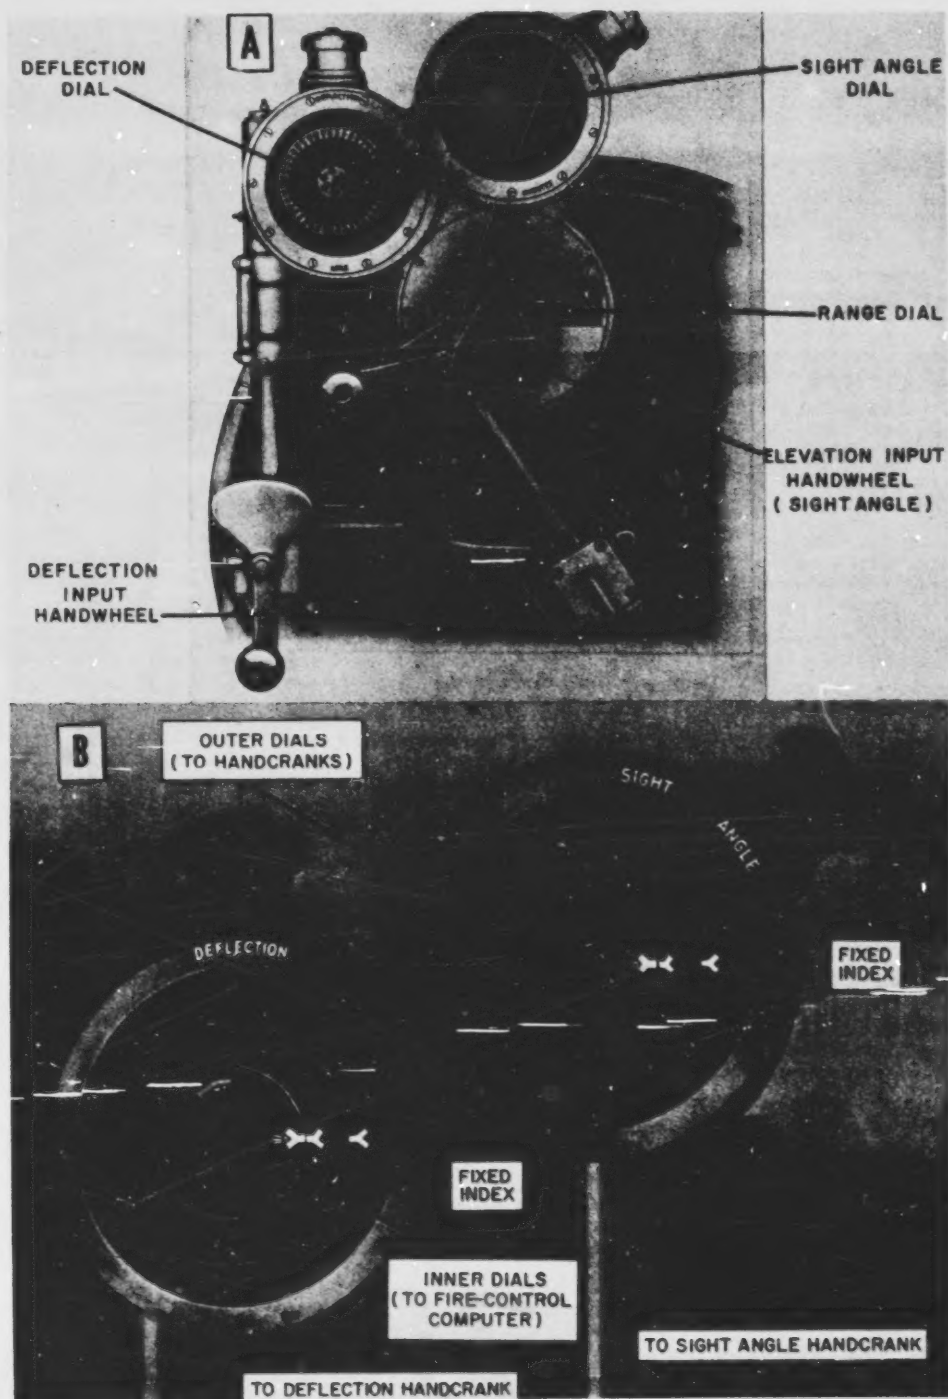

Figure 12-27.—A. Sight-setting component arrangement. B. Sight angle and deflection dials.
2. Most mounts have synchro-driven dials (as in fig. 12-27, part B) which indicate computed sight angle and deflection. The sightsetter cranks in sight angle and deflection until the outer dials (positioned by his handcranks) match the inner (synchro-driven) dials. This action simultaneously repositions prisms in the sight optical systems, causing the telescope lines of sight to shift off target.
Figure 12-27, Part A, shows the handcrank arrangement; Part B shows in more detail how the dials look when matched. The fixed index shows the angular values actually cranked in. It is used when there is no synchro transmission; under
3. The SIGHTSETTER is the man who is responsible for moving the pointer's and trainer's sights with respect to the gun. He has a handcrank for sight angle, and another for deflection angle (fig. 12-27A). Zeroing is done by handcrank. Sight angle is zeroed by turning the elevation input handwheel until the sight angle dial reads 2000 minutes (fig. 12-27). Deflection is zeroed by turning the deflection input handwheel until the deflection dial reads 500 mils.
As stated before, deflection spots are made in mils; they are applied by means of the deflection input handwheel. Range spots are made in yards by means of the elevation input handwheel, which also moves the range dial (graduated in yards). (See figs. 12-27 and 12-28).